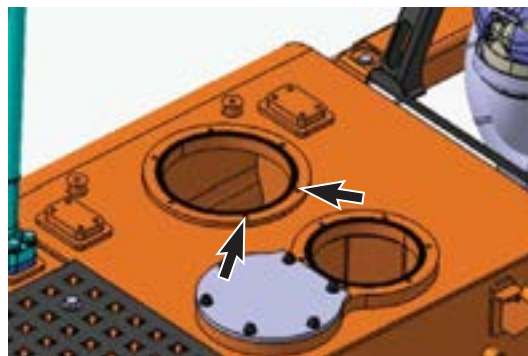

Figure 15
19. Install eyebolts (2 ea) on the oil tank. (Figure 15)